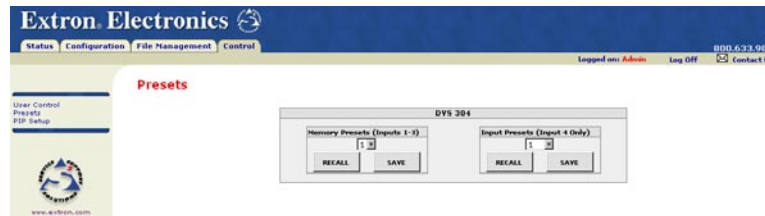

Figure 4-9 — Presets page
The Presets page (located under the Control tab, figure 4-9), provides access to memory and input presets, and works in conjunction with the User Control page.
4. Click the Presets link on the left side of the page. The Presets page appears (figure 4-9).
6. Click the Presets link on the left side of the page. The Presets page appears (figure 4-9).